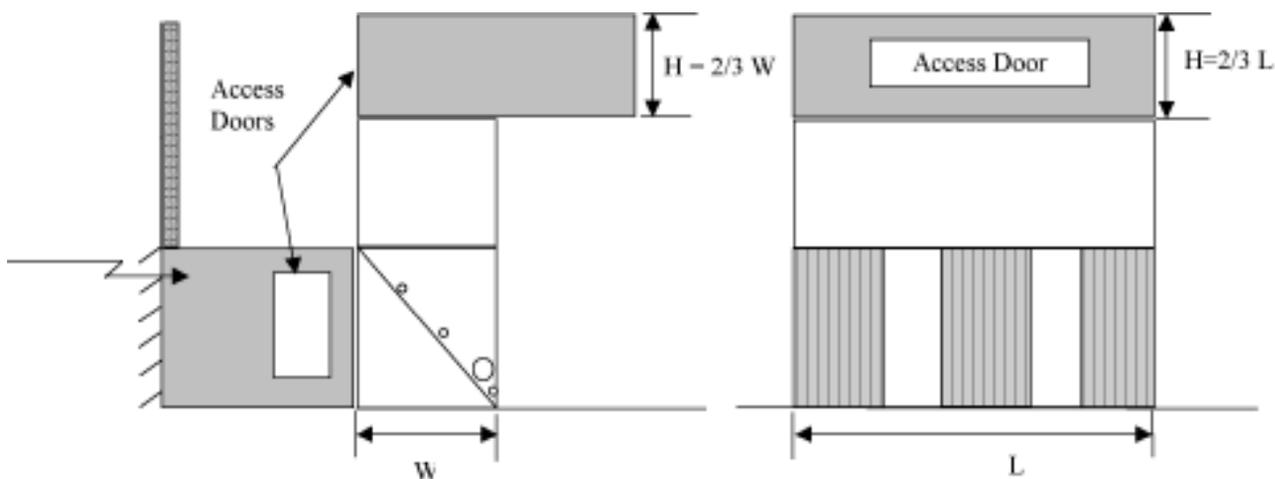

Figure 7: Section & front view of ducted unit enclosure
- c. Turns in inlet or discharge ducts should be avoided. Where turns must be used, velocities should be minimized in the vicinity of the turn. Turns in discharge ducting should be designed in accordance with the "2/3's rule" shown in Figure 7